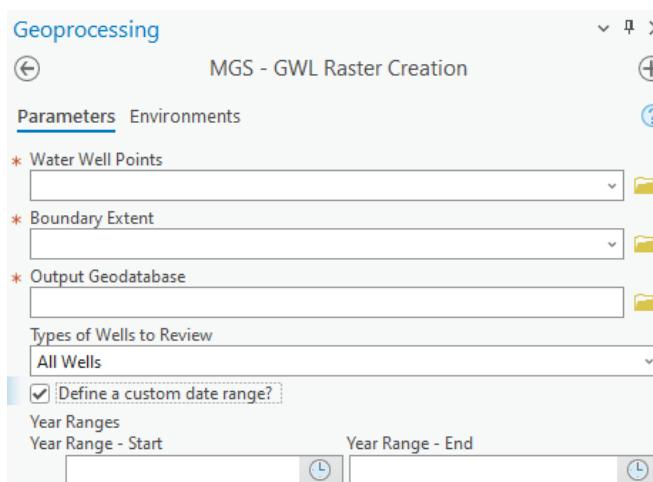

Figure 2: Screenshot of the MGS - GWL Raster Creation custom Python script in the ArcGIS Pro software.
If some of these datasets need to be reconstructed, there are some other tools we can use to format the data correctly. For example, if there is a groundwater raster that needs to be re-run, then a groundwater reclassification script can be used. This tool is named in the Data Formatting Tools toolset as MGS – GWL Raster Creation. This process for this custom Python script is described below in **Figure 2**:
9. Select “**MGS – Raster Creation**” tool below the Data Formatting tool seen in *Figure 2*.